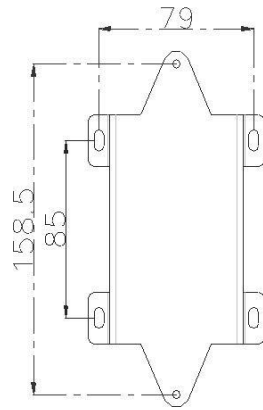

Figure 4: Mounting Bracket
3. Fix the mounting bracket to the wall using four ST4x30 screw. Refer to Figure 4